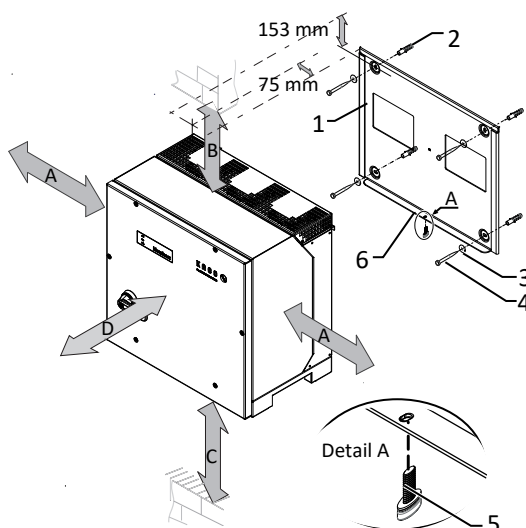

Fig. 16: Minimum clearances for wall mounting
3. Insert the screw provided into the lug of the mount and [X T30 /  2 Nm] ([See figure 16 [► Page 21]]).